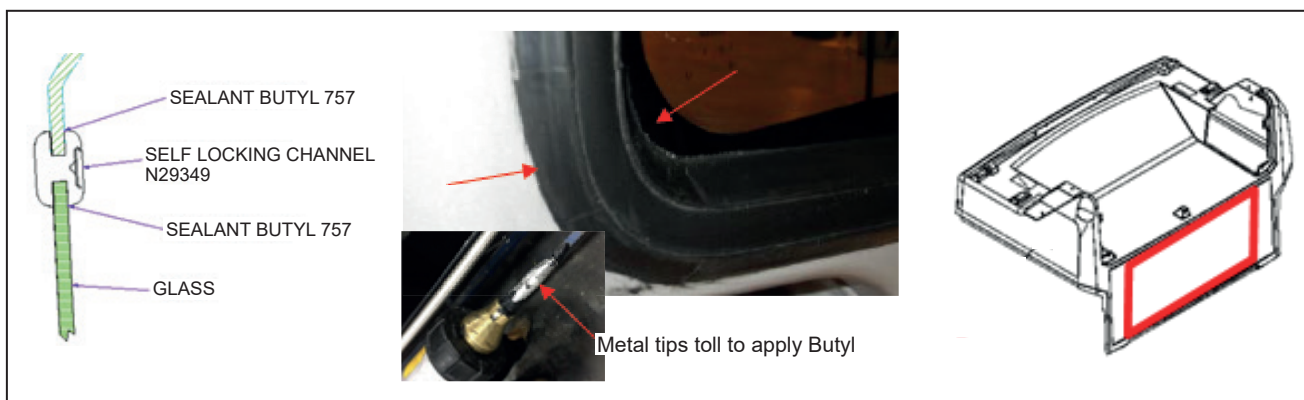

Figure 7 - Applying Sealant
- 1.10. Apply Butyl 757 sealant between the rubber extrusion and its contact surface until it overflows slightly (see figure 7).